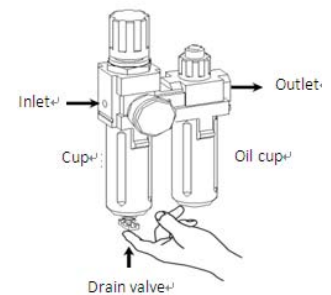

Fig 9.1
- As shown in Figure 9-1, when you found there are some water in the cup, push up the drain valve to drain away water with your fingers; loosen your fingers after drained water, drain valve can be automatic closed under the action of the spring.